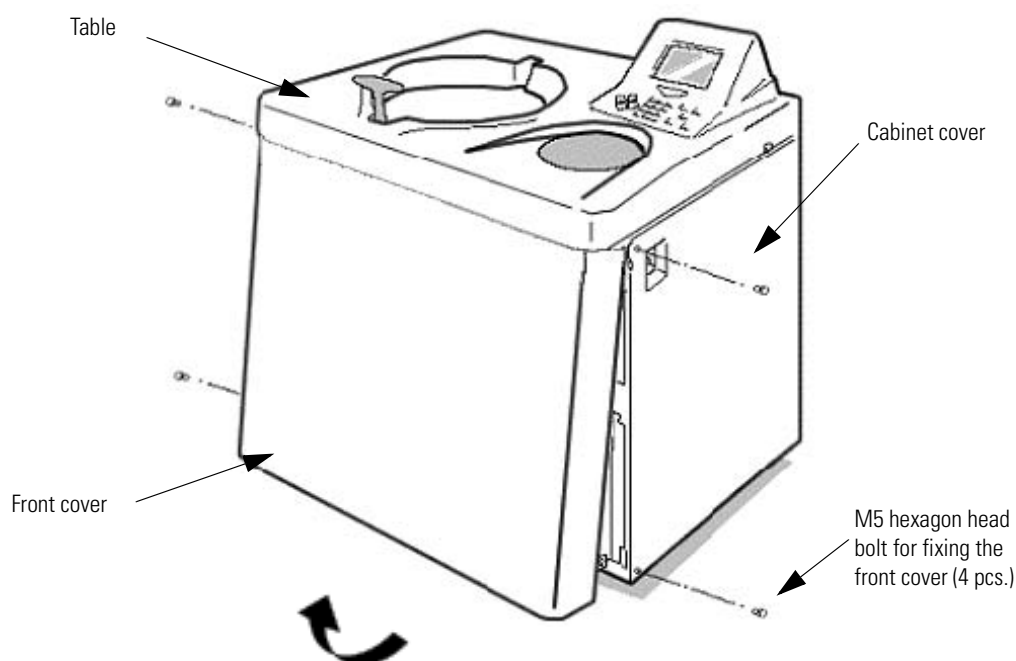

Figure 2-16 Removing the front cover
(4) Open the air vent (by turning the vacuum release screw on the left of the vacuum chamber counterclockwise) to let air into the rotor chamber. When the pressure in the rotor chamber reaches atmospheric pressure, do not forget to tighten the vacuum release screw as it was before. (See Fig. 2-16.)
(5) Pull the door unlock wire on the right of the vacuum chamber and, at the same time, push the door handle. Then the door opens. When opening the door, confirm that the rotor is not rotating. If it is still rotating, immediately close the door.